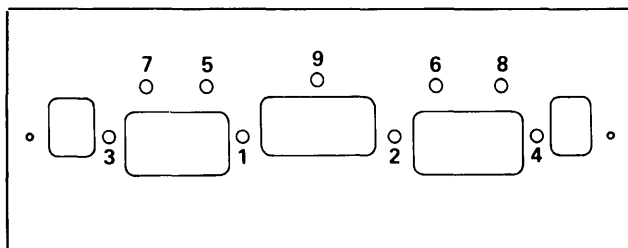

Fig. 1 Manifold Tightening Sequence
2) Tighten manifold-to-cylinder head bolts following torque sequence (see Fig. 1). Reverse removal procedure to complete installation.